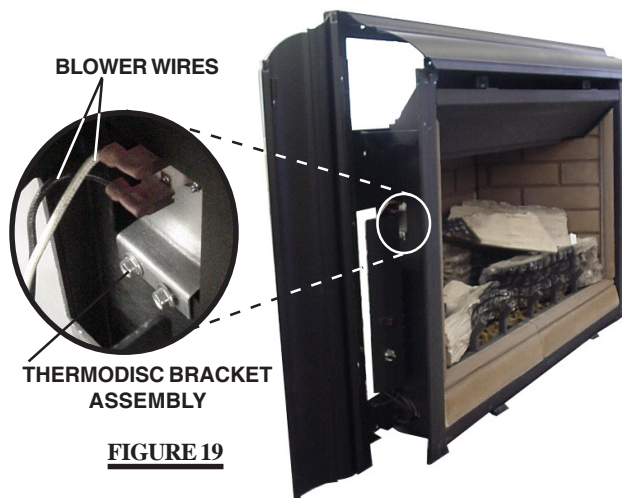

FIGURE 19
- Disconnect the two blower wires. Remove the blower bracket secured with one wing nut and lock washer. **For thermocouple replacement:** Remove the "Z" shaped mounting bracket secured to the firebox wall behind the left side control door. Remove the thermocouple from the bracket and replace. **Figure 19.**